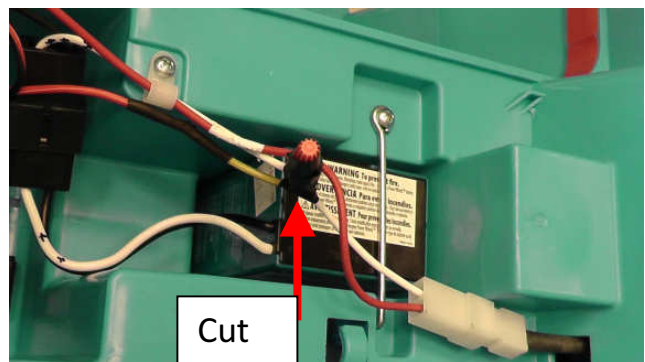

Fig. 10 Splice White Wire
24) Working inside the Wiring Compartment, cut the 18 gauge **white** wire that runs from the battery connector (under a wire clamp) through center of the car to the Go Switch connector. **See Fig. 10.**